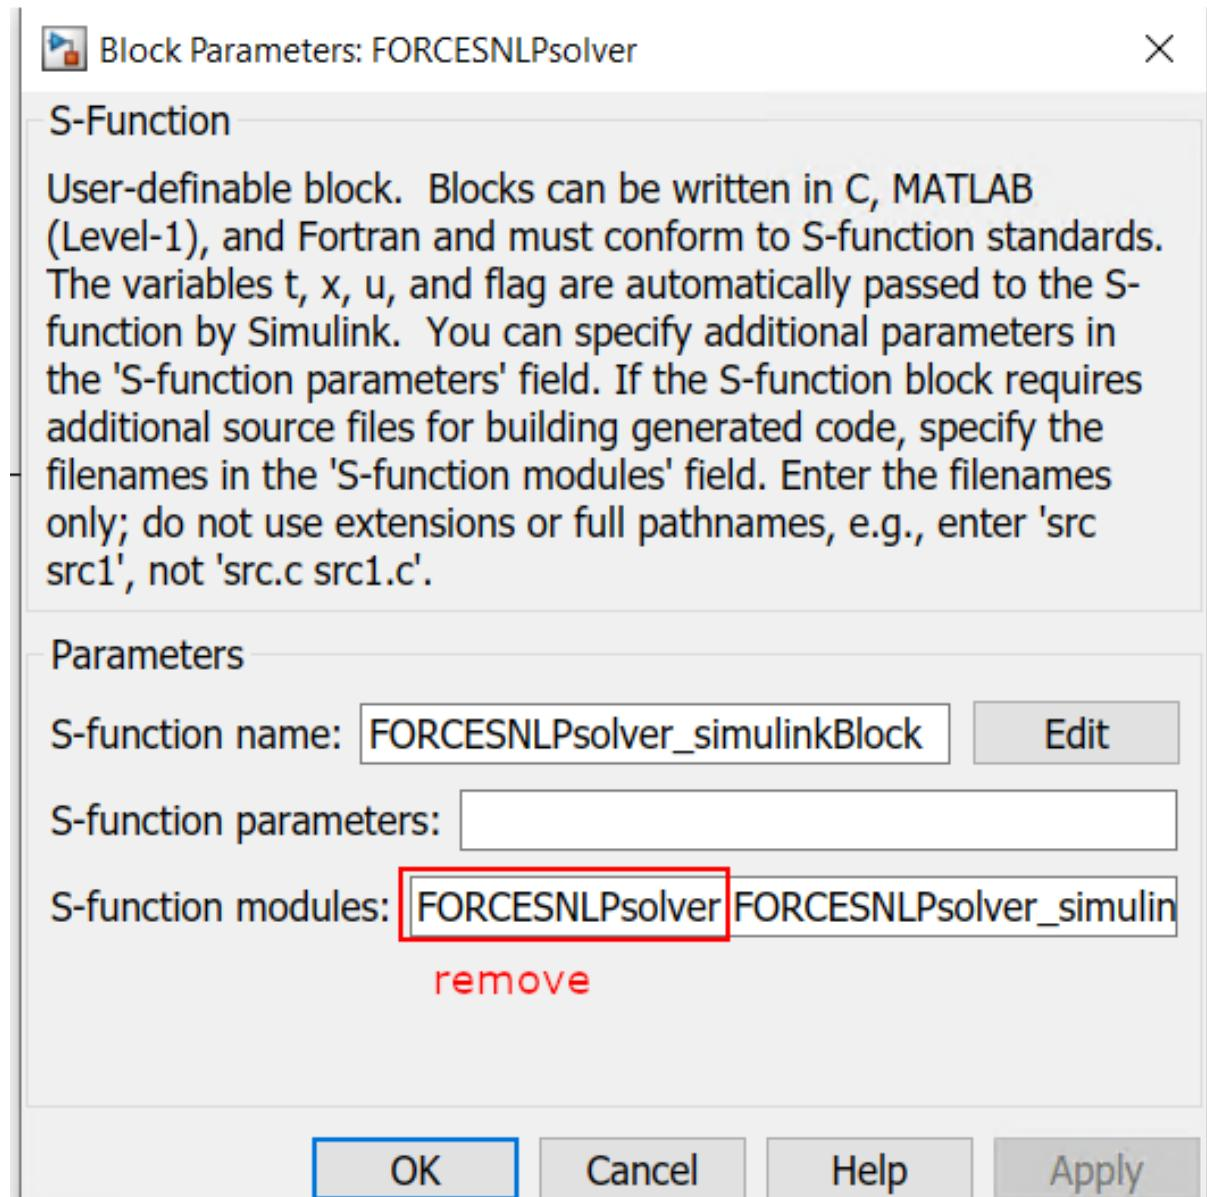

Figure 13.43: Remove the leading solver name from the S-function module.
- 14) Remove the “`FORCESNLPsolver`” prefix from the S-function module (see Figure 13.43).